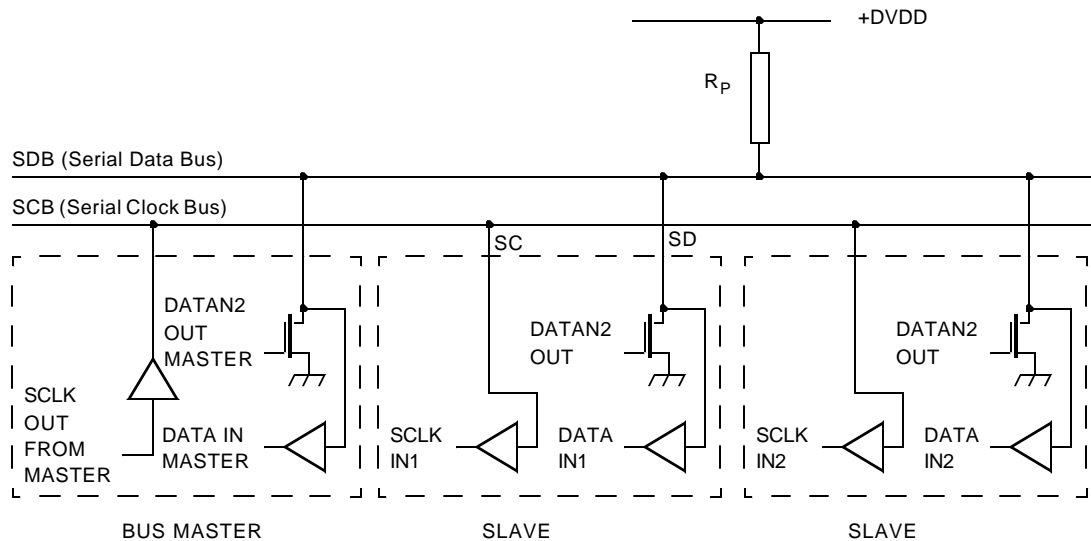

Figure 7: Connection of Devices to the Bus
The CH7301 contains a standard I²C control port, through which the control registers can be written and read. This port is comprised of a two-wire serial interface, pins SD (bidirectional) and SC, which can be connected directly to the SDB and SCB buses as shown in **Figure 7**.
The Serial Clock line (SC) is input only and is driven by the output buffer of the master device (also shown in **Figure 7**). The CH7301 acts as a slave, and generation of clock signals on the bus is always the responsibility of the master device. When the bus is free, both lines are HIGH. The output stages of devices connected to the bus must have an open-drain or open-collector to perform the wired-AND function. Data on the bus can be transferred up to 400 kbit/s.
The electrical specifications of the bus devices' inputs and outputs and the characteristics of the bus lines connected to them are shown in **Figure 7**. A pull-up resistor (R_p) must be connected to a $3.3V \pm 10\%$ supply. The CH7301 is a device with input levels related to DVDD.